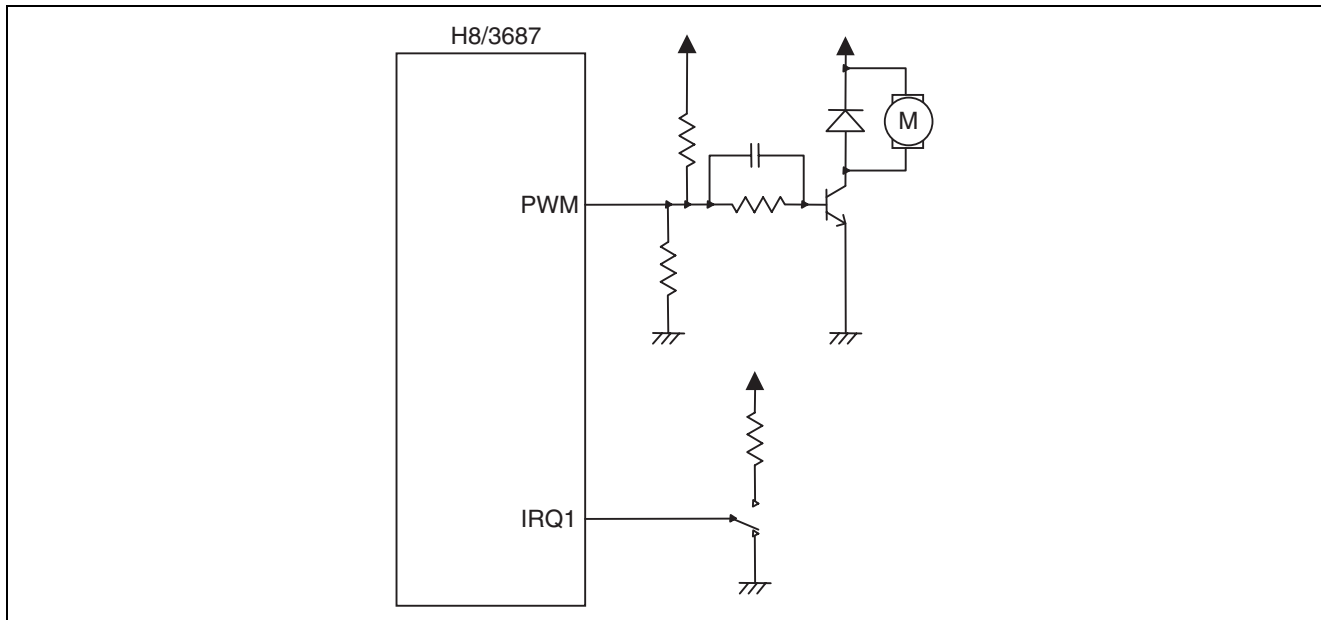

Figure 1 Configuration of This Sample Task
- Figure 1 shows the connections needed to enable brush-type DC motor control.